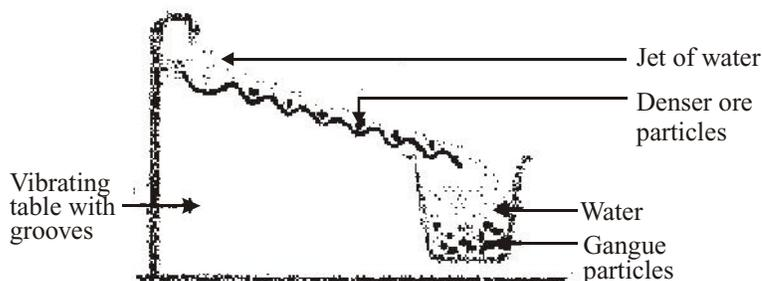

Fig. 18.3 : Gravity Separation (Hydraulic Washing)
- (i) **Gravity separation (Hydraulic washing)** : In this method, the light (low specific gravity) earthy impurities are removed from the heavier metallic ore particles by washing with water. It is therefore, used for the concentration of heavier oxide ores, like haematite ( $\text{Fe}_2\text{O}_3$ ) tinstone ( $\text{SnO}_2$ ) and gold ( $\text{Au}$ ). In this method, as shown in the Fig. 18.3 the powdered ore is agitated with water or washed with a strong current of water. The heavier ore settles down rapidly in the grooves and the lighter sandy and earthy materials (gangue particles) are washed away.